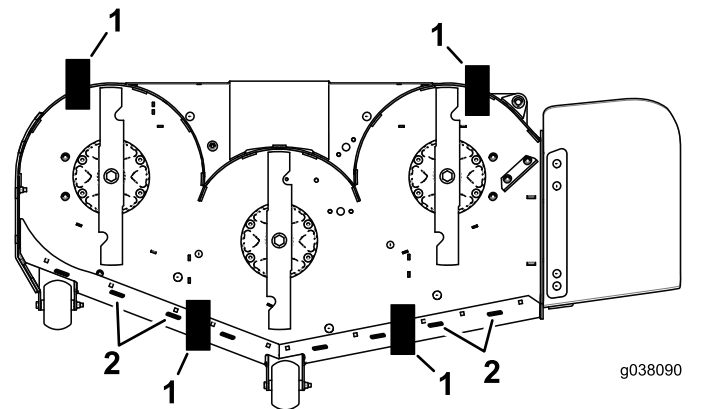

Figure 122
- 10. Place 2 blocks (see Block Height and Rake Table) under the rear edge of the cutting deck skirt; 1 on each side of the cutting deck (Figure 122).